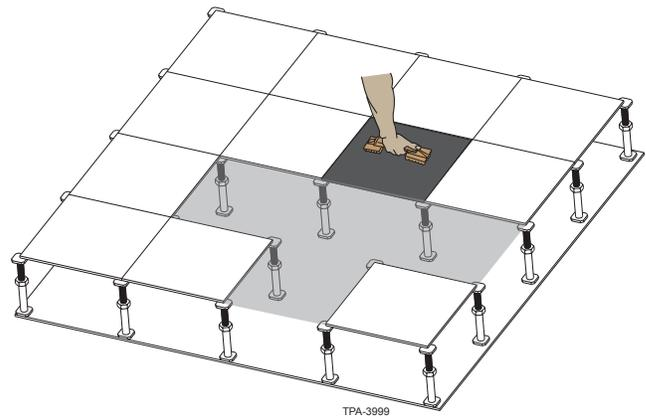

Figure 6
- Step 1:** Select an installation location and remove five adjacent floor tiles in a “+” pattern (Figure 6) using a panel-lift tool. The unit will be installed in the center of the “+.”